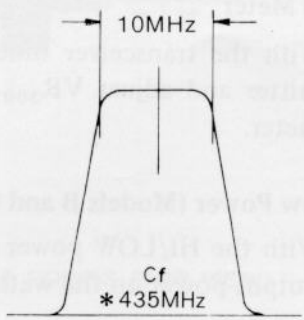

Figure 2
3. Connect the output of the sweep generator to the antenna jack, and the input to R_{1010} . Disconnect P_{14} and adjust CV_{1001} , CV_{1002} and TC_{1002} to obtain the passband of Figure 2.